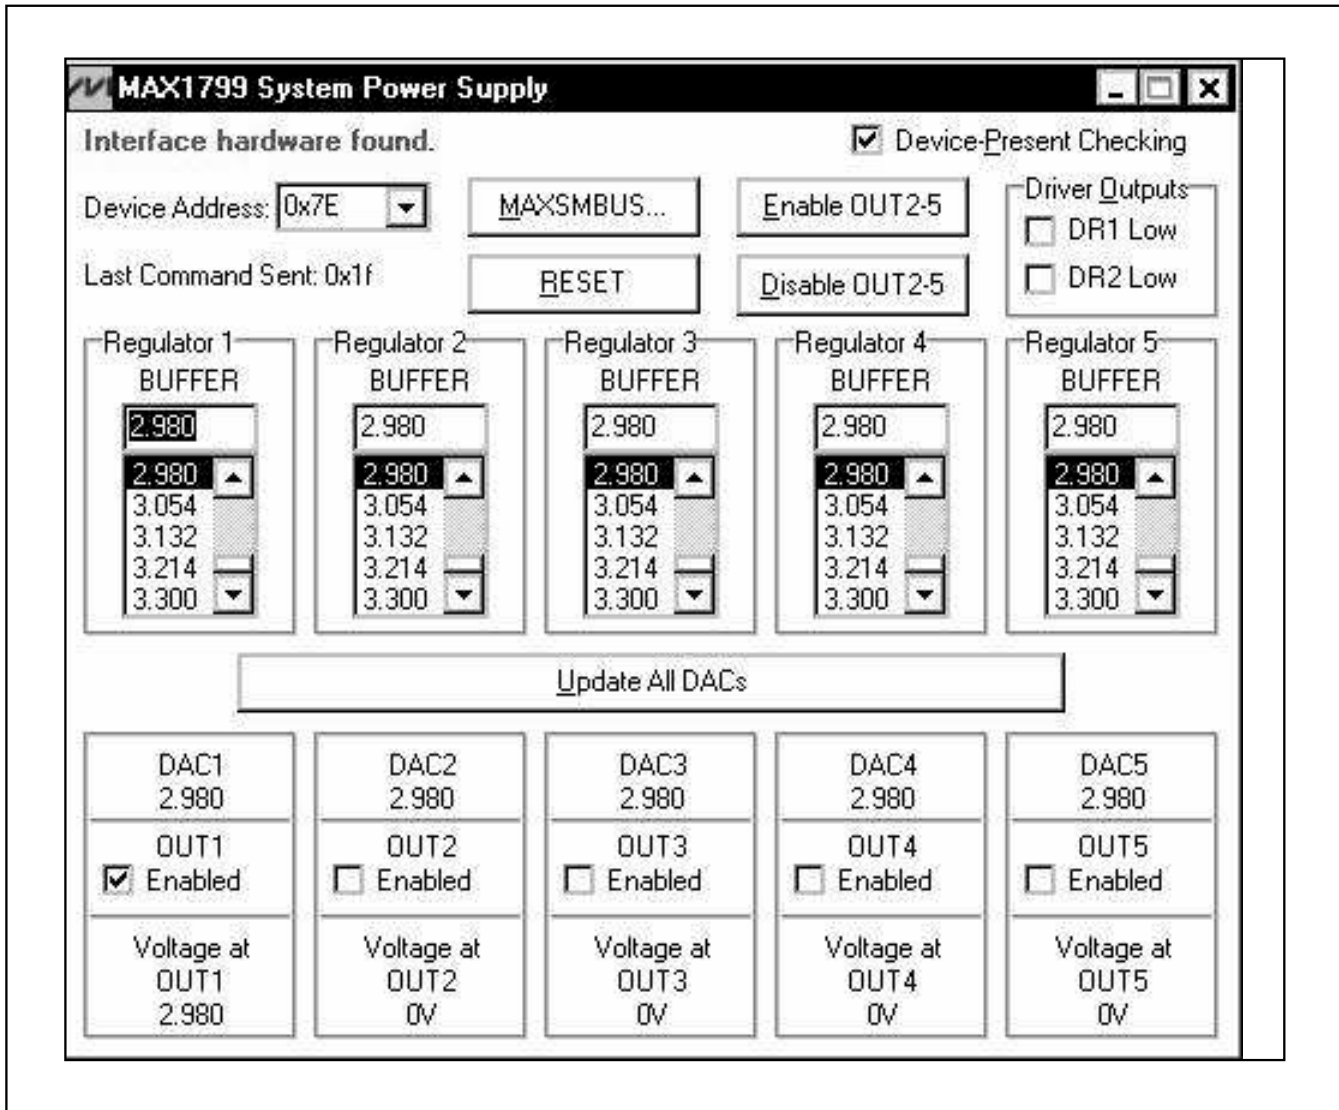

Figure 1. Main Display for MAX1799 EV Kit
- 11) Start the MAX1799 EV kit software by opening its icon in the **Start** menu. The GUI main window appears, as shown in Figure 1.